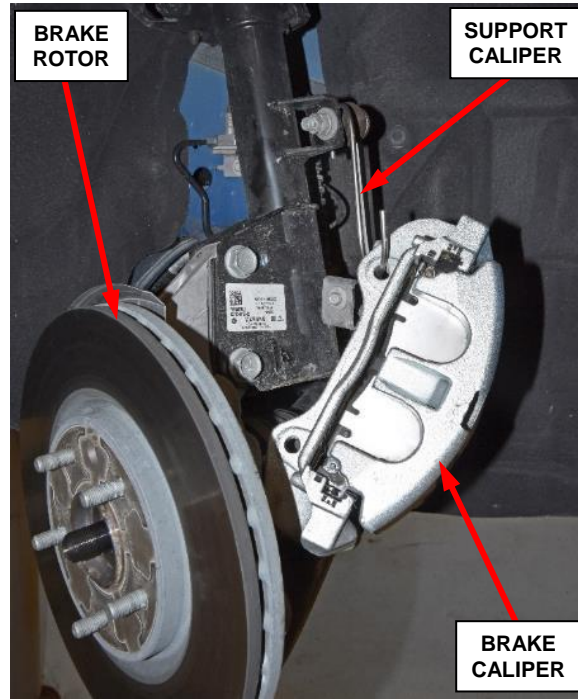

Figure 7 – Brake Caliper and Rotor
5. Carefully remove and support the brake caliper mounting bracket assembly aside taking care not to over extend the brake hose (Figure 7).
6. Remove the brake rotor from the wheel bearing hub (Figure 7).
44. Install the brake rotor to the wheel bearing hub (Figure 7).